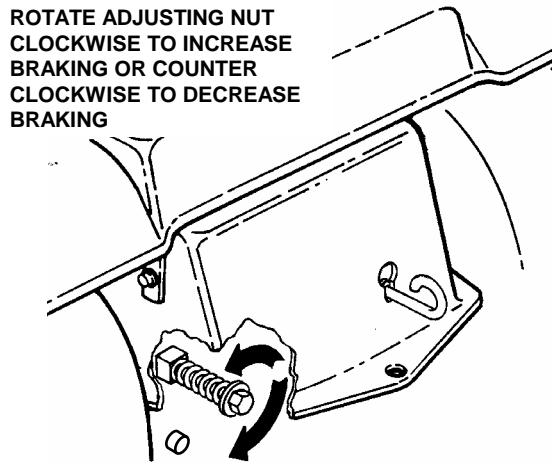

FIGURE 4.8
2. Locate brake adjustment nut underneath the left side at the rear of tractor. See Figure 4.8.